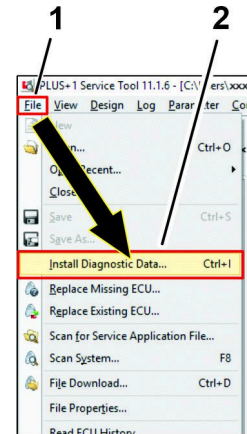

Figure 53
1. Click the File icon, and in the drop-down list, click the Install Diagnostic Data . . . icon (Figure 53).